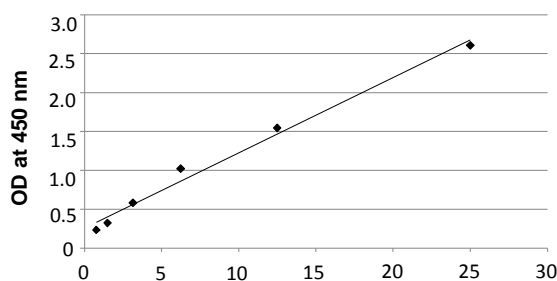
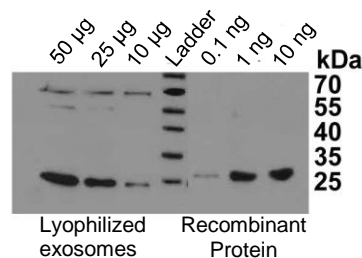

Figure 4. CD9 titration of plasma healthy donor exosome standards.
Figure 5. CD9 marker detection by Western Blotting on lyophilized exosomes from human plasma and the recombinant CD9 protein.
10. Sensitivity: The sensitivity of the ExoQuant™ was compared to Western blot. The data reported in Figure 4 and 5 demonstrate that the sensitivity of the ExoQuant™ is higher than that of Western blotting. Figure 5 shows that 10 µg of lyophilized exosomes is equivalent to 0.1 ng of the recombinant exosomal protein (CD9). Since the standard curve's lower concentration is 0.39 µg of lyophilized exosomes (Figure 4), the sensitivity of our test is around 39 µg of protein equivalent.